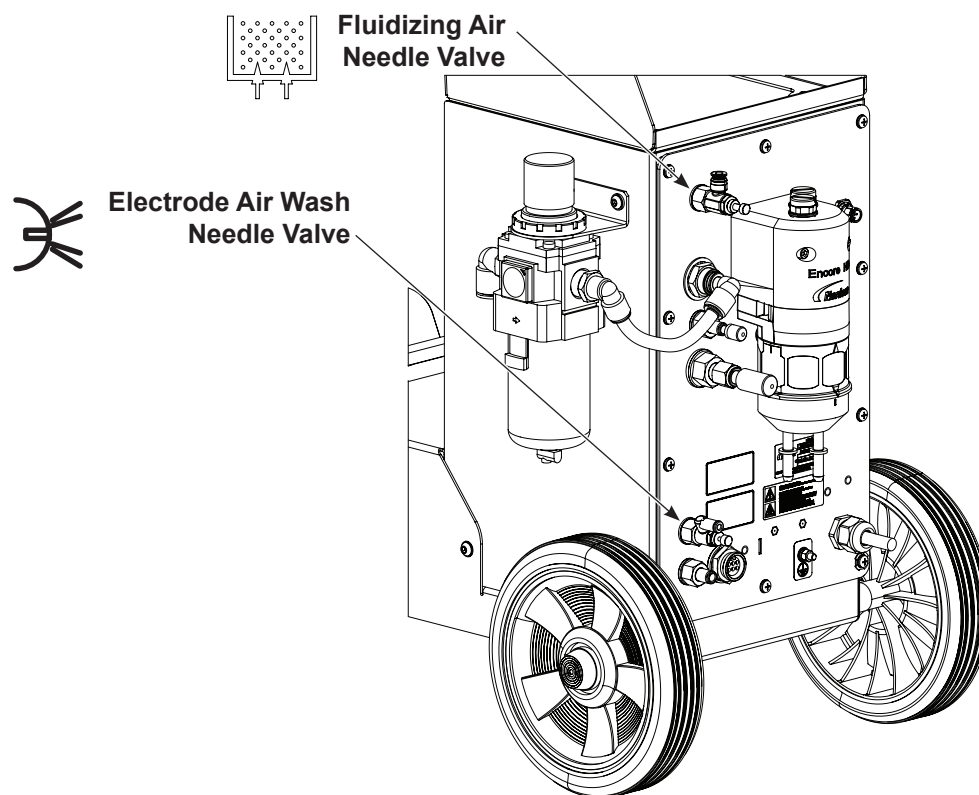

Figure 4-2 Electrode Air Wash and Fluidizing Air Valve Location
See Figure 4-2.
See Figure 4-2. Electrode air wash air continually washes the spray gun electrode to prevent powder from collecting on it. Electrode air wash air turns ON and OFF automatically when the spray gun is triggered ON and OFF.
- a. See Figure 4-2. Adjust the fluidizing air  so that the powder around the pickup tube is being fluidized without blowing powder out of the box. Triggering the spray gun turns ON the vibrator motor. Depending on the vibrator motor function setting, the motor will:
- a. See Figure 4-2. Use the fluidizing air  needle valve to adjust the fluidizing air pressure so the pressure is just enough so the powder in the hopper “boils” gently. The fluidizing air causes the powder to increase in volume.